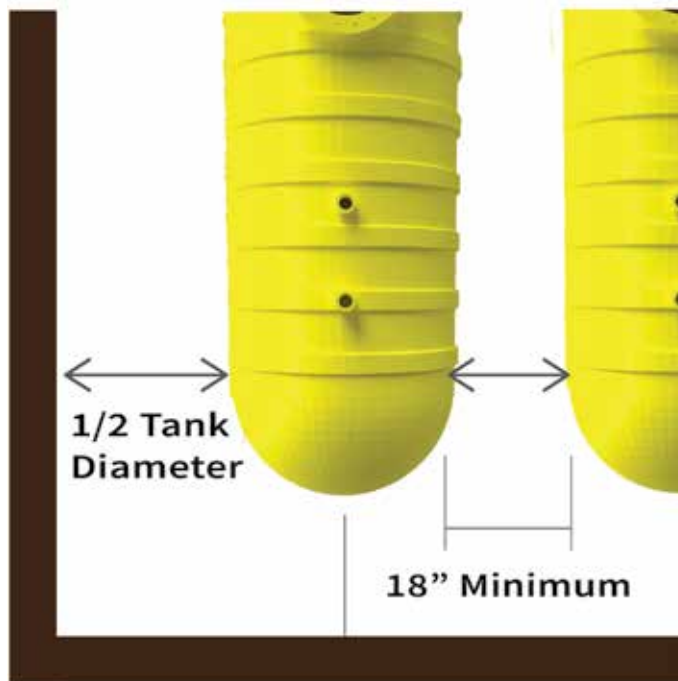

Figure 9: Unstable Soil Excavation
Tank excavation requires a minimum space equal to half the diameter of the Tank between the excavation wall and both the side and the endcap of the Tank to enhance lateral resistance (Reference Figure 9), and one of the following criteria must be met:
- ▼ Spacing between each adjacent tank will have a minimum value of 18", refer to Figure 9.